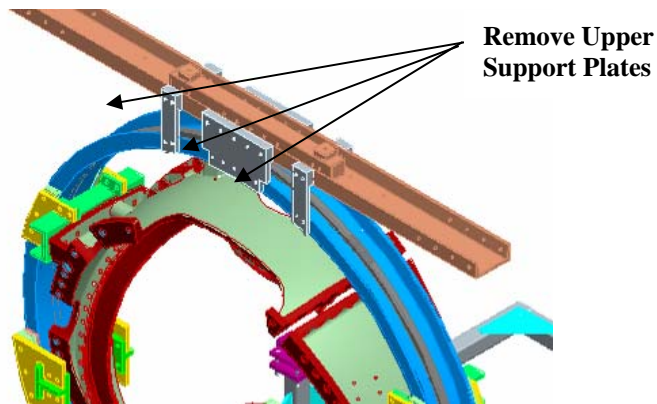
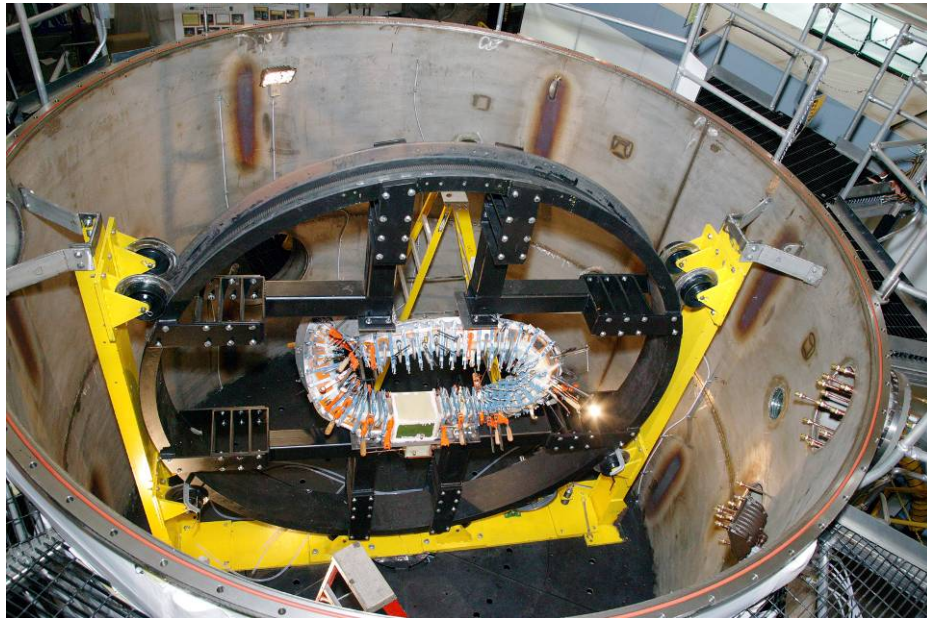

Figure 1- Upper Support Plates
Figure 2- Coil/Ring Assy in Autoclave
- Install the upper support plates that secure the support ring to the support/lift beam. This operation must be verified prior to proceeding. See Figure 1- Upper Support Plates
- Remove the upper support plates between the support-ring and lift beam. [Figure 1- Upper Support Plates] This operation must be verified prior to operating turning fixture. Once removed, using the crane transport the lifting beam from the autoclave and store the unit on facility floor. [Figure 2- Coil/Ring Assy in Autoclave]